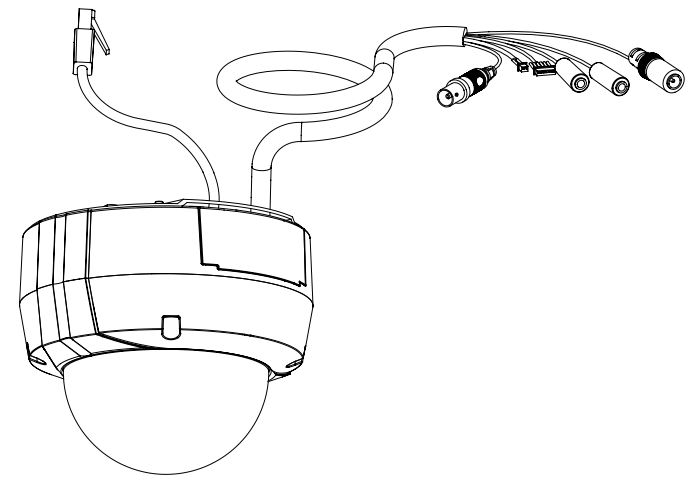

Figure 2.2
1. Connect the Ethernet cable and the power cable, threading them through the hole in the ceiling. (Figure 2.2)